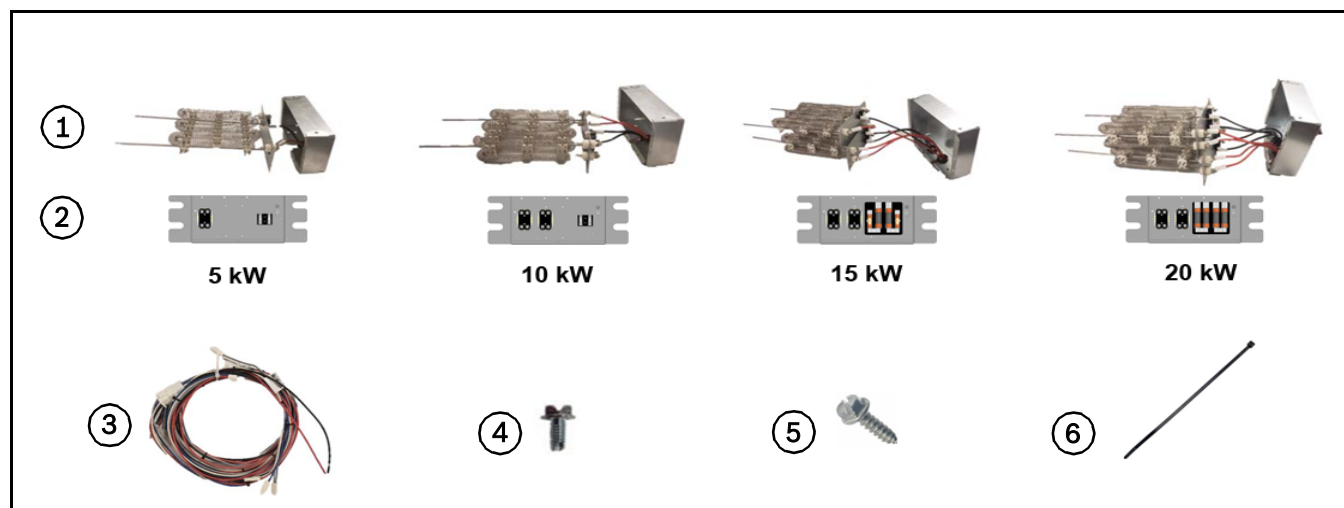

Fig. 1 Heater Kit Components
2. Ensure that the heater kit package includes all of the items listed in Fig. 1.